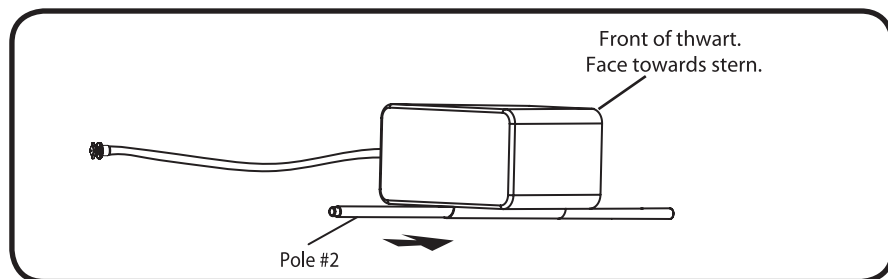

Figure 6
6. Insert pole #2 into the sleeve on the bottom of the rear thwart (leave deflated) making sure that the numbered end of the pole is at the back end of the Rear Thwart. **See Figure 6.**